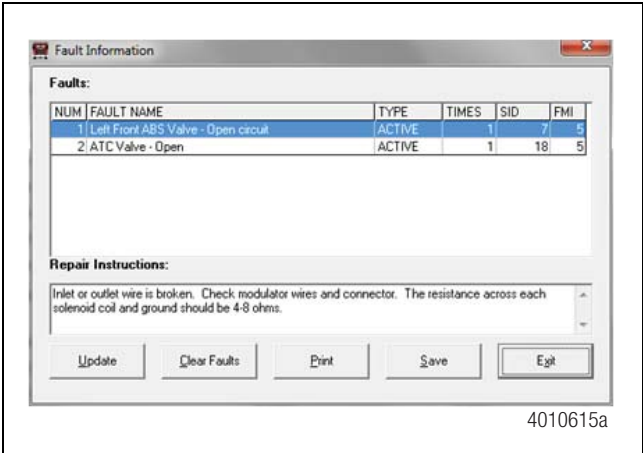
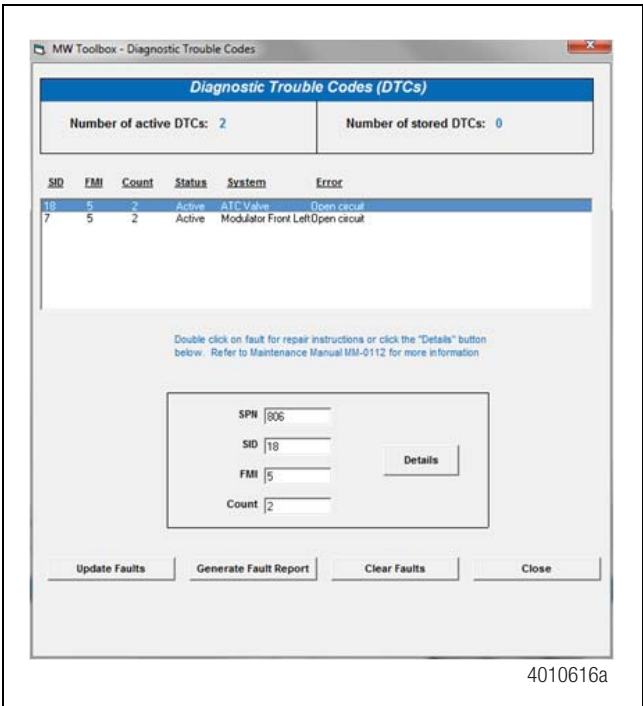

Figure 3.9
Figure 3.10
7. From the pull-down menu, select **Faults** or **Diagnostic Trouble Codes**. This will open the Fault Information screen. Figure 3.9 and Figure 3.10.